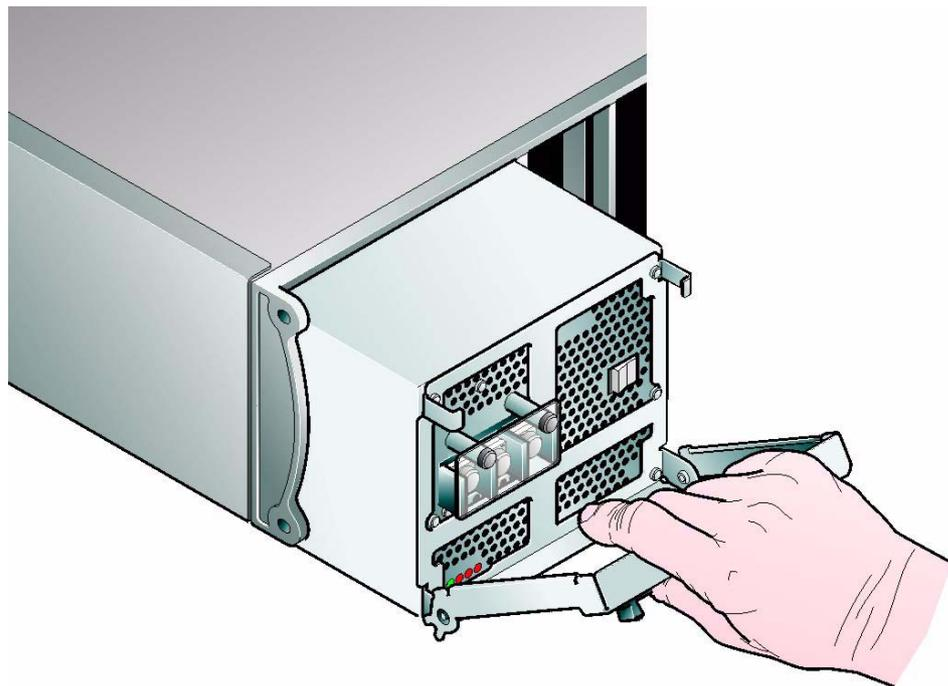
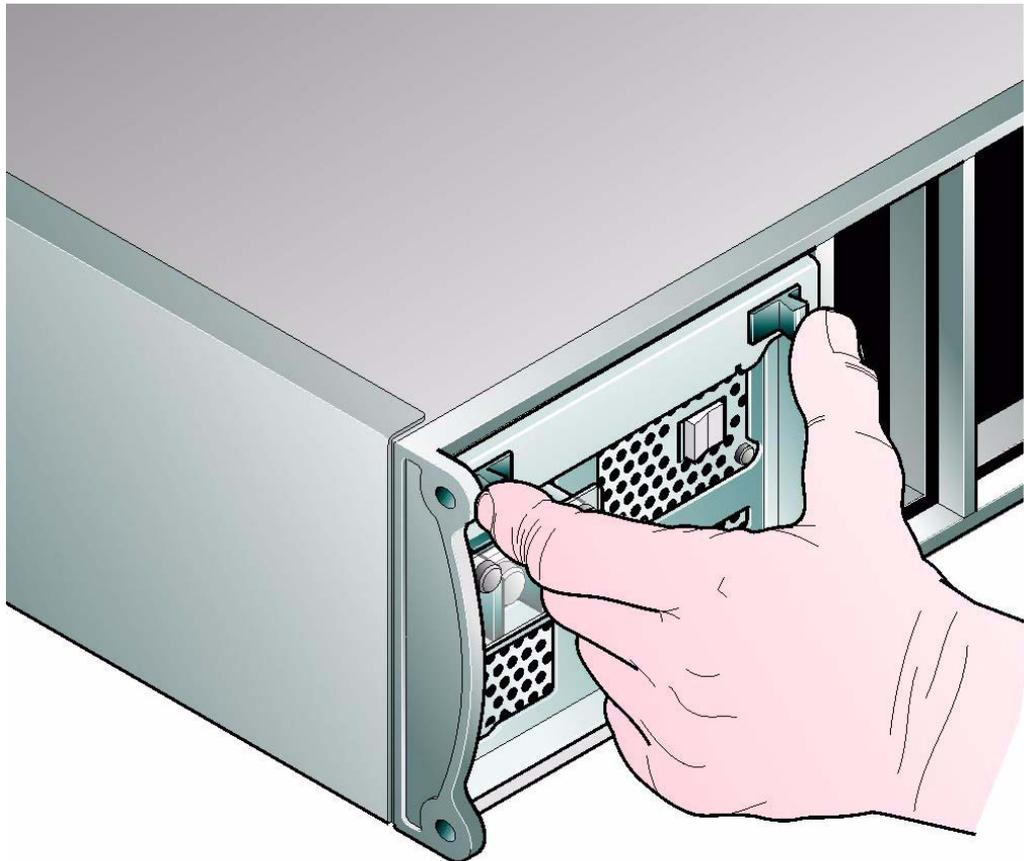

Figure 2-7 Installing a -48V DC PSU (1)
Figure 2-8 Installing a -48V DC PSU (2)
- 3 Cam the module home by manually closing the PSU handle (see Figure 2-7). A click should be heard as the handle latches engage (see Figure 2-8).